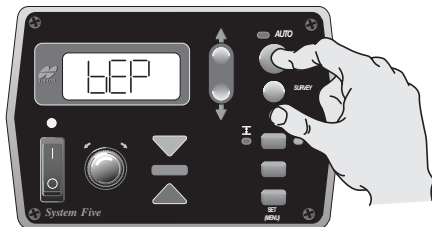

Figure 33. Select Beeper
1. From the Performance Menu, press the Auto button to select Beeper (Figure 33).